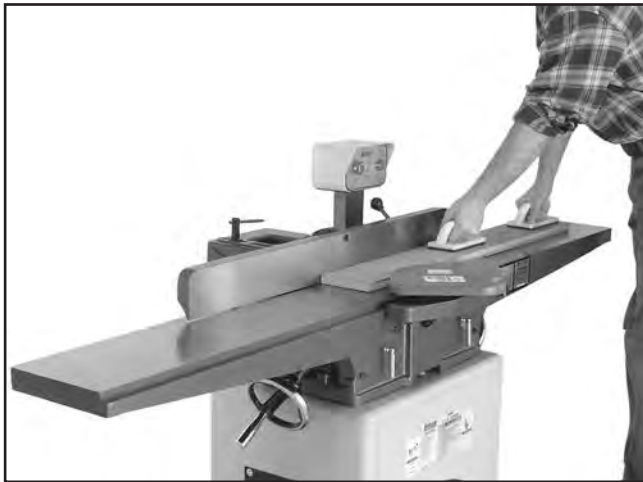

Figure 22. Typical surface planing operation.
The purpose of surface planing on the jointer is to make one flat face on a piece of stock (see **Figures 22 & 23**) to prepare it for surface planing on a thickness planer.
6. With a push block in each hand, press the workpiece against the table and fence with firm pressure, and feed the workpiece over the cutterhead (**Figure 22**).